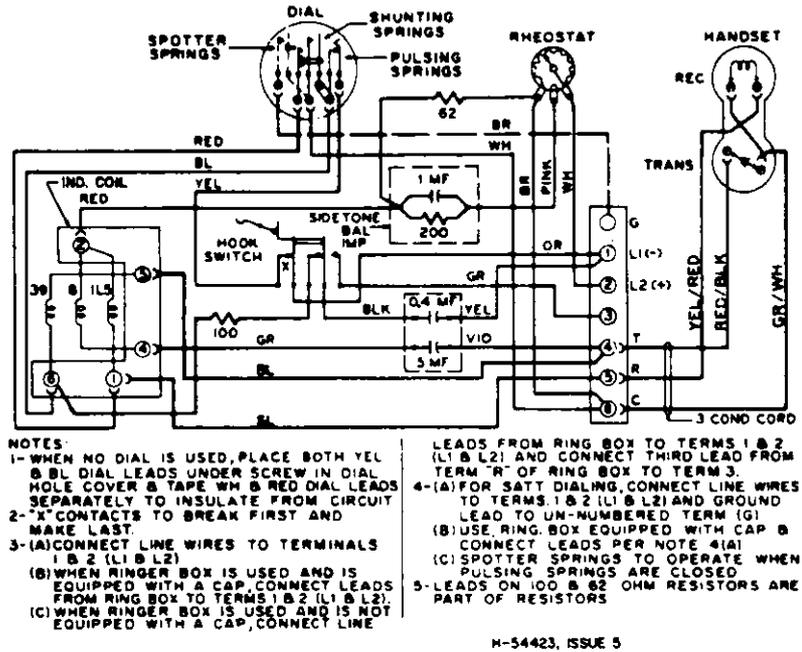

Figure 3. Wiring Diagram, Type 83 Telephone.
- (4) Fasten the dial studs into the dial assembly to be installed.
- (5) Fasten the dial wires to the dial terminals, referring to Figure 3.
NOTE: If the dial to be installed is a SATT dial, and the telephone is not equipped with a BR dial wire, order dial wire part number D-543069-N. Connect this wire to the dial terminal and terminal strip, referring to Figure 3.
4.13 Check that the party identity pulse is on the plus (+) line (Figure 3). At ringer box terminals L1 and L2 (or telephone terminals 1 and 2), attach the clips of a hand test telephone and with handset of the Type 83 telephone on-hook, dial 0 on the Type 83 telephone. As the dial returns to normal, listen through the receiver of the hand test
- (1) Loosen the cover screw and remove the telephone cover.
- (2) Disconnect the following handset cord leads from their terminal strip terminals (Figure 3):
- (3) Release the handset cord clamp from the telephone and pull out the old cord.
- (4) Insert the new cord and align it with the groove for this cord in the telephone housing.
- (5) Connect the handset cord leads to the proper terminal strip terminals. Refer to step (2) for lead connections.
- (6) Pull out the slack, engage the cord clamp, and dress the leads.
- (7) Replace the telephone cover.